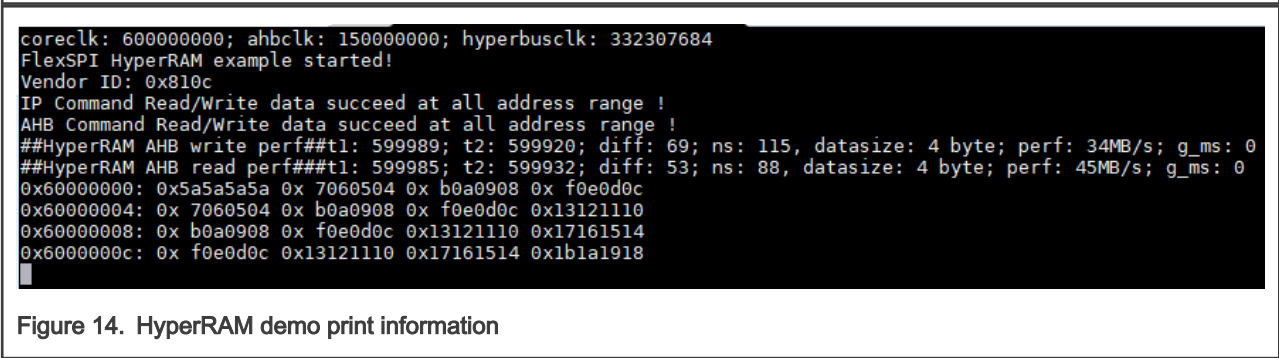

Figure 14. HyperRAM demo print information
6. Make, download, and debug. The information shown in Figure 14 appears in the serial terminal.